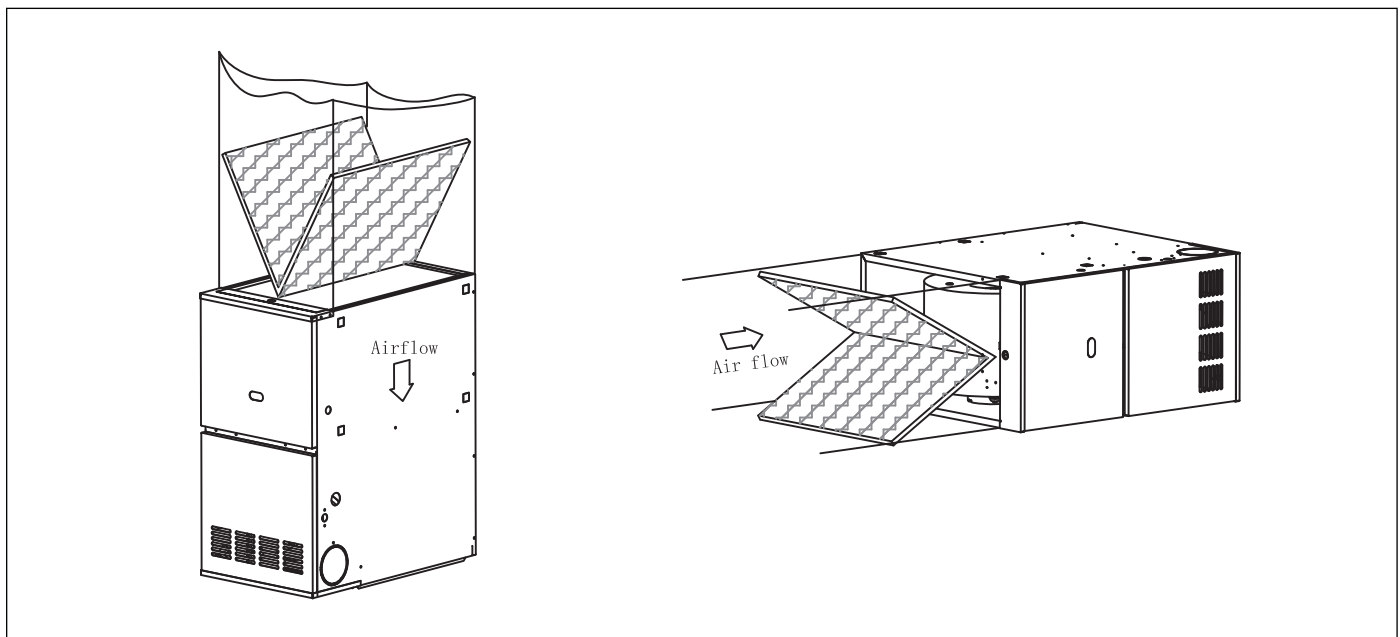

Figure 19
i These furnaces come standard with knockout holes to aid in right/left return configurations (refer to Fig. 19). To do this, knockout the holes and cut the sheet metal and insulation accordingly.
- ▶ If disposable filters are used, air passage through filters should be increased to twice the size of original air opening by using a transition duct or using two filters in V shape (see Fig. 19) in normal duct size.
Locate the 4 cutout locations. These indicate the size of the cut-out to be made in the furnace side panel. Refer to Fig 19, "Side Return Cutout Markings".